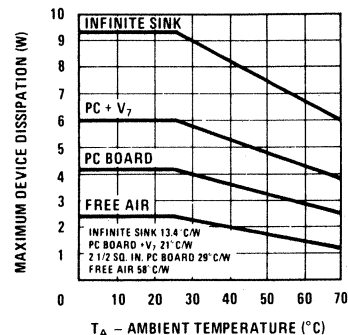

FIGURE 4.14.3 Maximum Dissipation vs. Ambient Temperature
Thermal resistance between junction to lead frame (or junction to heat sink if θ_{LS} is ignored) is read, directly from the "Maximum Dissipation vs. Ambient Temperature" curve found on the data sheet. Figure 4.14.3 shows a typical curve for the LM378.
3. From Figure 4.14.3, $\theta_{JL} = 13.4^\circ C/W$.
Therefore, a heat sink with a thermal resistance of 4.5°C/W is required. Examination of Figure 4.14.3 shows this to be substantial heatsinking, requiring forethought as to board space, sink cost, etc.